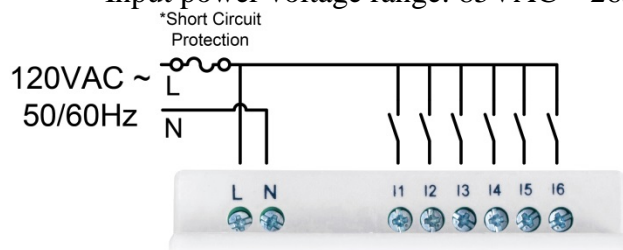

Figure 3
120VAC line connects to (L) terminal and input terminals (refer to Fig.3) on the SG2.